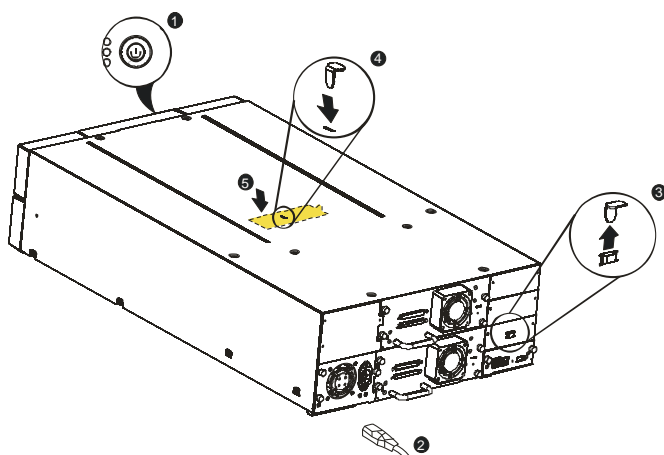

Figure 69 Replacing Shipping lock before transportation
- 16.** Store the lock and label to the top cover (see Figure 69).
If you need to transport the Library, it is recommended that the shipping lock and label is replaced on the top cover (see Figure 69).
2. Remove the yellow label and the shipping lock. The shipping lock is store on the rear panel (see Figure 69).